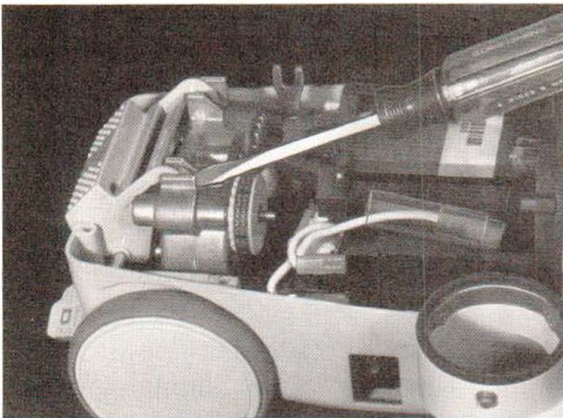

Figure 8. Foot Pedal Removal
- A. See Figure 8. Using a thin flat bladed screwdriver, carefully pry the pivot points of the power switch foot pedal off the pivot pins formed in the drive system housing.